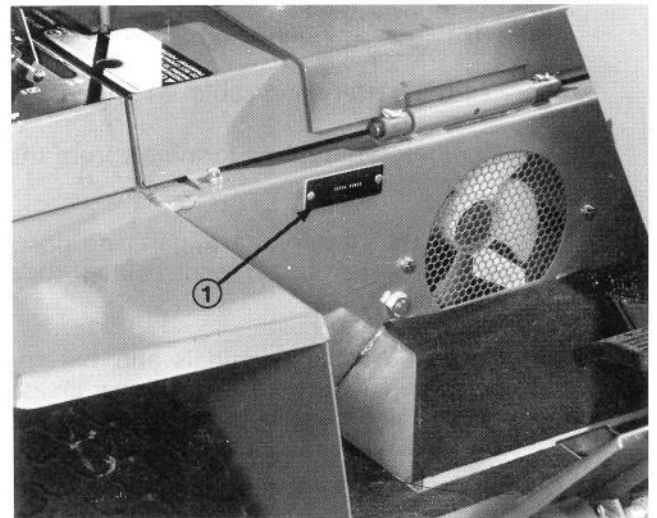

Figure 81
4. Align PTO brake assembly with pulleys and belts and tighten mounting fasteners. Visually inspect alignment of brake lining with pulley. Lining should be parallel to pulley and centered over pulley grooves. Loosen and remove PTO brake bracket fasteners and add or remove spacers between the bracket and mounting plate to achieve a parallel adjustment. Adjust the capscrews & flangenuts to center the lining assembly (Fig. 81).
The traction unit has two identification numbers: a model number and a serial number that are stamped into a plate. The identification plate is located near the right end of the seat hinge (Fig. 81). In any correspondence concerning the traction unit, supply the model and serial numbers to ensure correct information and replacement parts are obtained.